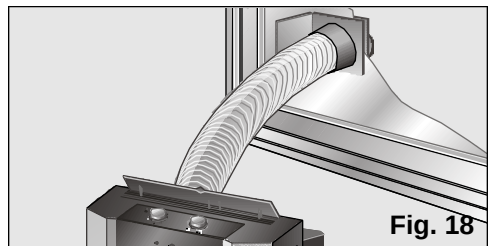

Fig. 18
- ❑ If permanent installation is to be performed through the window, then it is only necessary to use the transparent end piece on the accessory. A 14 cm diameter hole needs to be cut in the glass, **Fig. 18**.